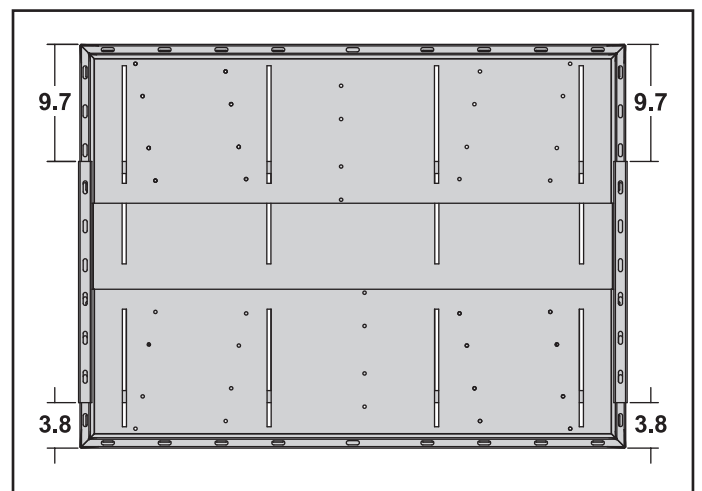

Figure 7.
7. Assemble the basket. The depth of the basket can be adjusted; use a tape measure to accurately measure the depth of the basket before attaching hardware. Find the desired depth; then use a tape measure to measure between the four corners of the outer basket and the edges of the inner basket, making sure that each basket side is parallel between the inner and outer basket. See figure 7 on preceding page.
Note: The measurements shown in figure 7 are for reference only.